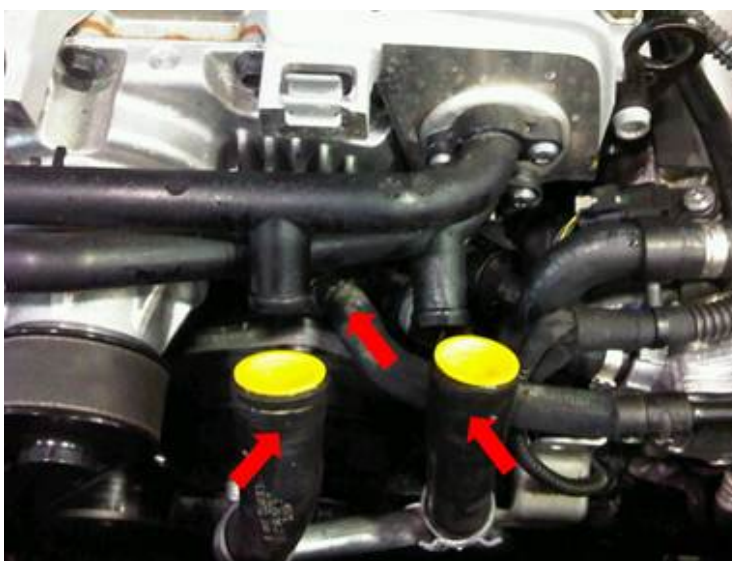

Figure 9. Coolant hoses (arrows)
8. Remove coolant hoses (Figure 9, arrows) and close them off with fitting caps (yellow caps from VAS 6122). Move the coolant hoses to the side for access to the intake runner position sensor.